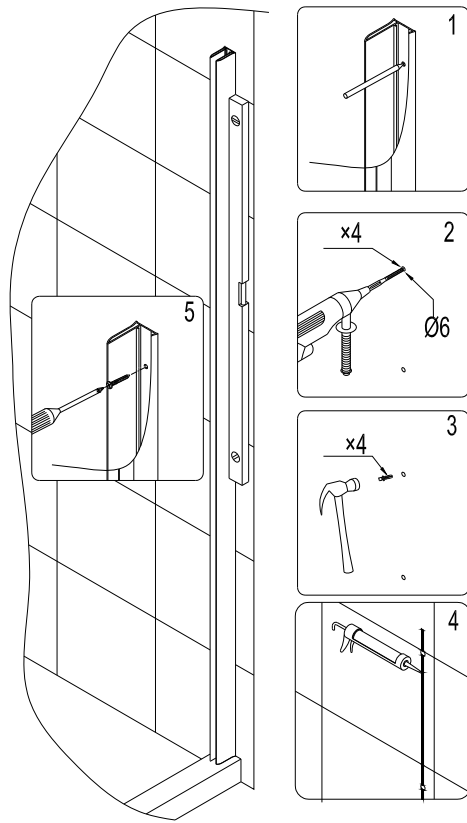

Fig 9
9. Repeat step 1 to install the **Wall profile (6)**. Apply silicone sealant along the holes on the wall. Attach the **Wall profile (6)** to the wall using **Flat head screws ST4.2×30 (18)**. See Fig 9 for details.